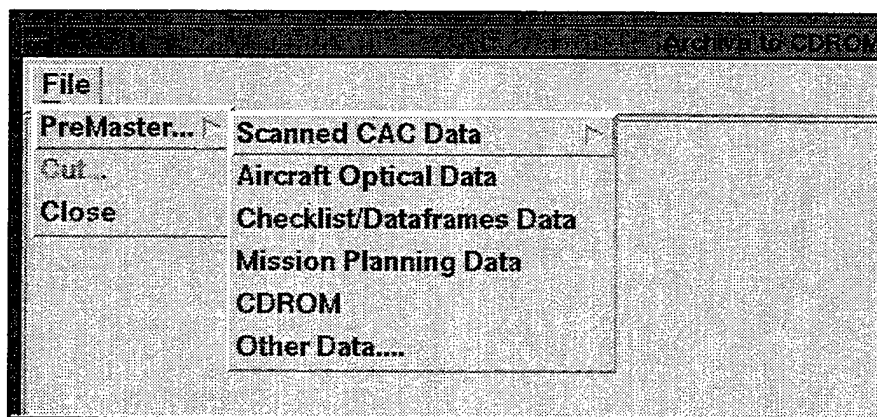

Fig. 34 — Archive to CDROM window
3.3.6.2.1 Archive Data to CDROM—"Premasters" a set of data into a CD image and writes the data to a CD. The CD images conform to the International Standard Organization (ISO) 9660 standard for optical disk formats. When a user selects this option, MMC opens the **Archive To CDROM Window** (Fig. 34). Click on *Premaster* and select the data type to be archived: *Scanned CAC Data*, *Aircraft Optical Data*, *Checklists/Data Frames Data*, *Mission Planning Data*, *CDROM*, or *Other Data*. MMC will build an ISO 9660 image from that data. If the user has built an ISO image before, MMC will prompt the user to delete that file before building a new one. After premastering the data into an ISO image, select *Cut* to actually copy the data to a CD. When finished, select *Close* to return to the **MMC Window**. There are six data types that MMC can archive to CD: